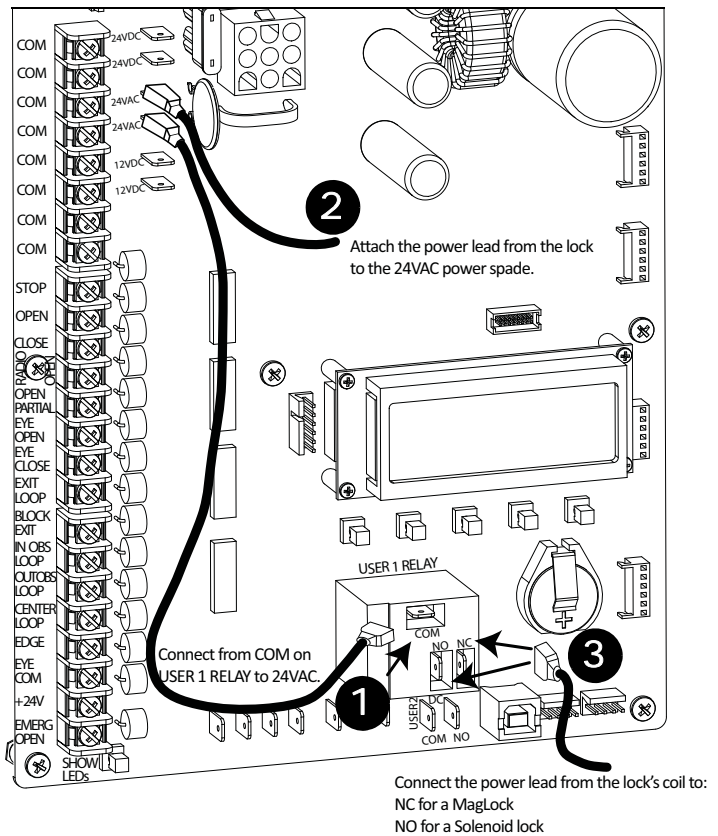

Figure 6-3.
1. Connect a wire from COM on USER 1 RELAY and one 24VAC power spade. See Figure 6-3